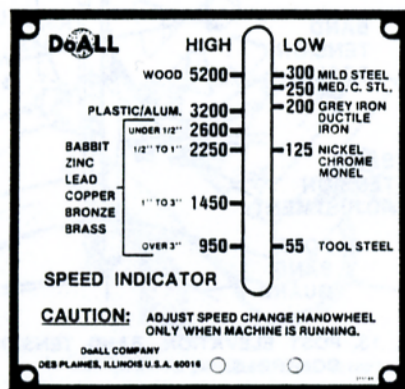

FIG. 14B. TYPICAL BAND SPEED INDICATOR -- MACHINES STARTING WITH SERIAL NO. 457-87613.
- (3) Variable speed within either range is changed by turning band speed handwheel -- turn wheel **clockwise** to decrease speed, **counterclockwise** to increase. Refer to band speed indicator while turning handwheel to determine when desired speed is reached. See Figs. 14B and 14C.